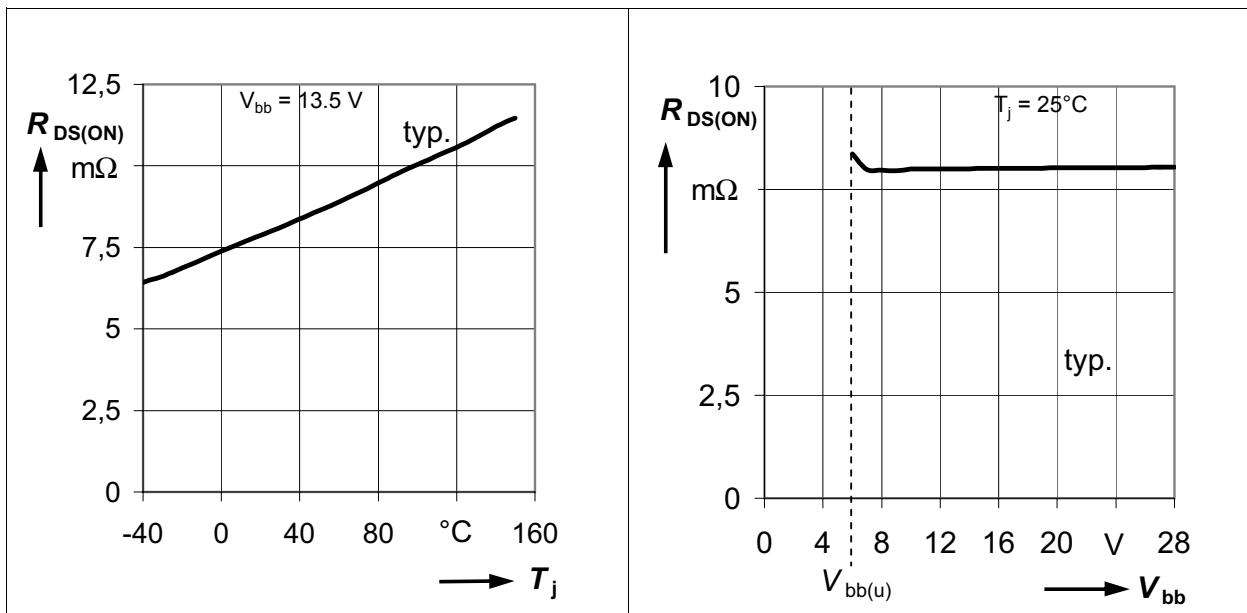

**Figure 5** Input Circuit
**Figure 5** shows the input circuit of the BTS50080-1EGA. The input resistor to ground ensures that the input signal is low in case of open input pin. The zener diode protects the input circuit against ESD pulses.